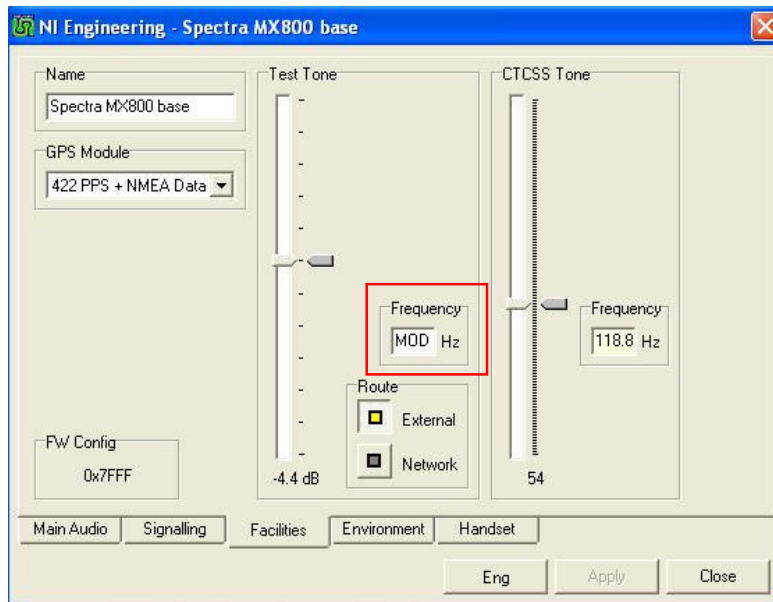

Figure 11. NI Engineering – Facilities tab, Test Tone Frequency.
- 27.3. On the Facilities tab, check that the Test Tone 'Frequency' has changed to 'MOD' indicating that the SB2025 Modulation Balance test signal is being generated (see **Figure 11** overleaf). The SB2025 Tx will be keyed and modulated with a 200 Hz square wave.